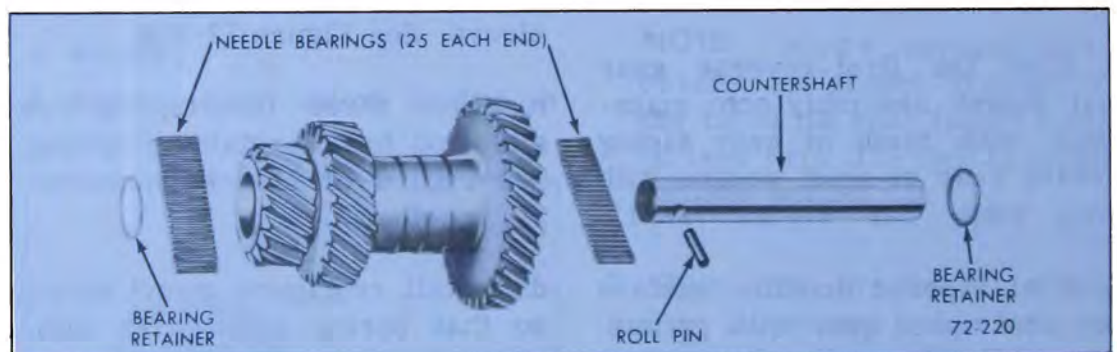

Figure 72-220—Exploded View of Countershaft
2. Assemble the countergear alignment Tool J-21775, bearings, thrust washers, and place in bottom of case. The countergear will remain in the bottom of the case until the mainshaft and main drive gear have been installed. See Figure 72-220.